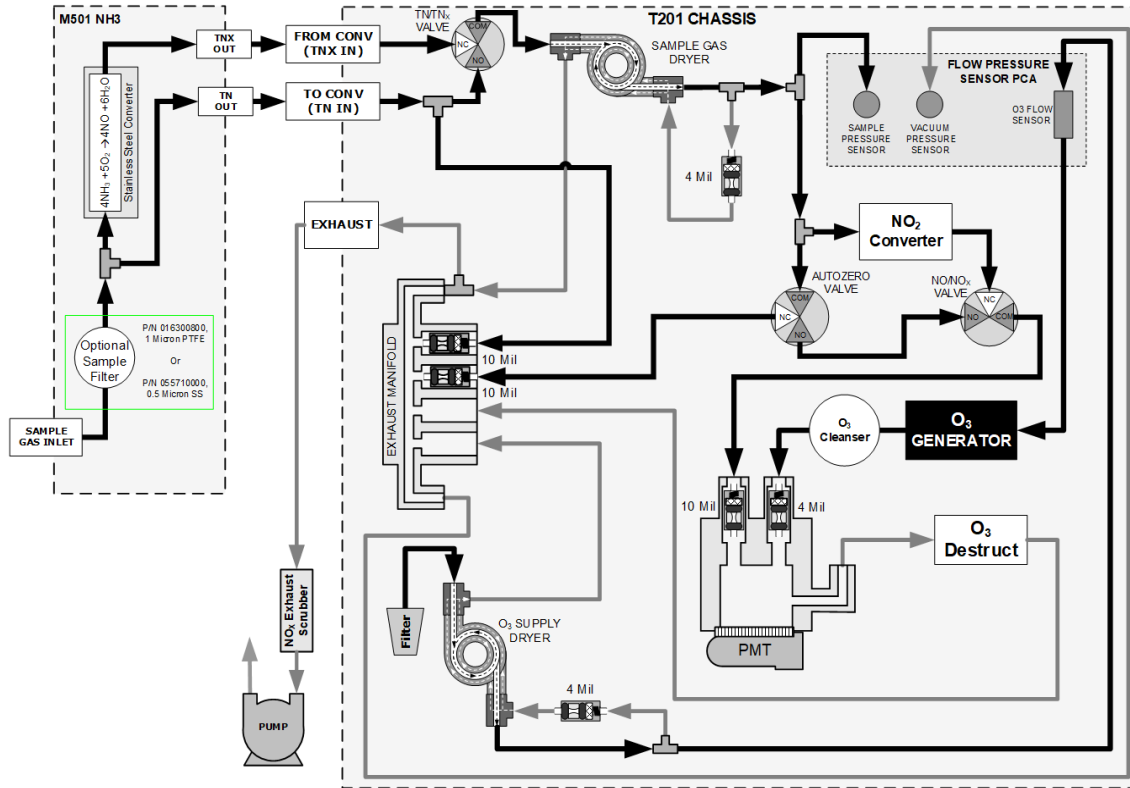

Figure 1-2. T201 and 501 NH₃ Pneumatic Flow
- Figure 1-2 shows the pneumatic flow for the basic system.